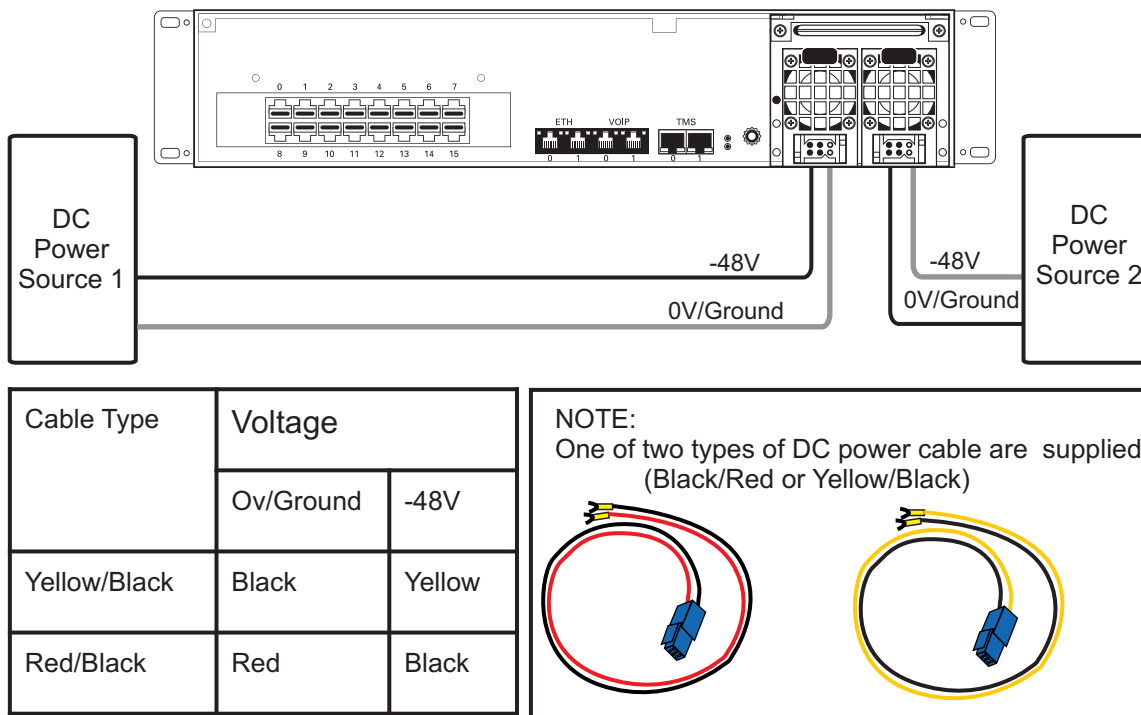

Figure 2.10 3200 Series Gateway DC Wiring Diagram
1. Connect one DC cable, supplied with the 3200 series gateway, as shown in figure 2.10 on page 27, to the rear of the unit.
Note Two types of cable with different coloring are available. Refer to figure 2.10 on page 27 for the appropriate wiring information.